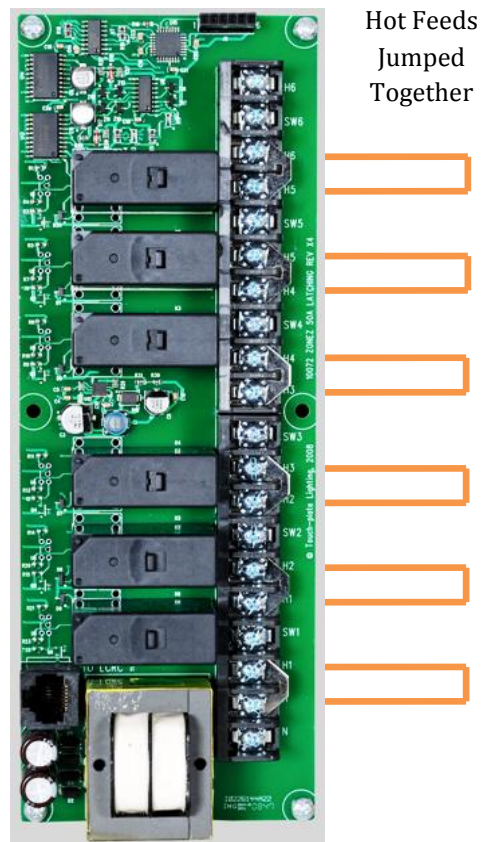

Figure 6.2
Figure 6.2 shows a 10072 Relay Board. The 10072 Relay Board has mechanically latching relays rated at 50AMPS. There are 6 relays and a transformer per board. The transformer performs the same functions as the TVR-1 / TPS-0120, which supplies power to the relay and the low voltage circuitry. T The Relay Board will come from the factory with ‘jumpers’. ‘Jumpers’ allow all six (6) relays to share one (1) hot feed. If more than one (1) hot feed is desired or needed, the jumper(s) can be removed so the new hot feed can be wired.